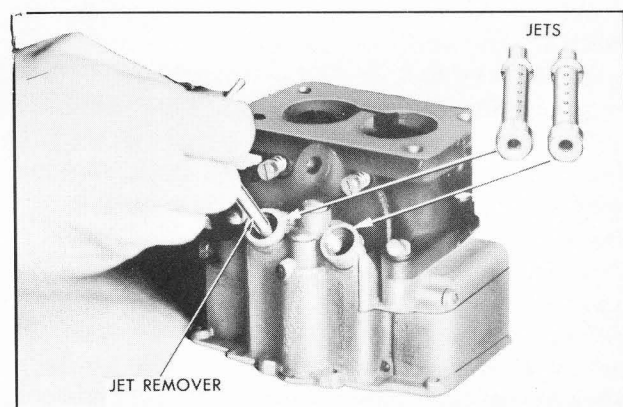

Figure 3-83—Removing Main Discharge Jets
14. Remove main discharge jets by screwing Jet Remover T-24967 (R.H. thread) into base of jet, then pulling jets from main body. See figure 3-83. The threads formed in the main discharge jet by the tool will not affect the metering characteristics of the jet. **NOTE:** Make sure that main discharge jet lead gaskets are removed from main body.